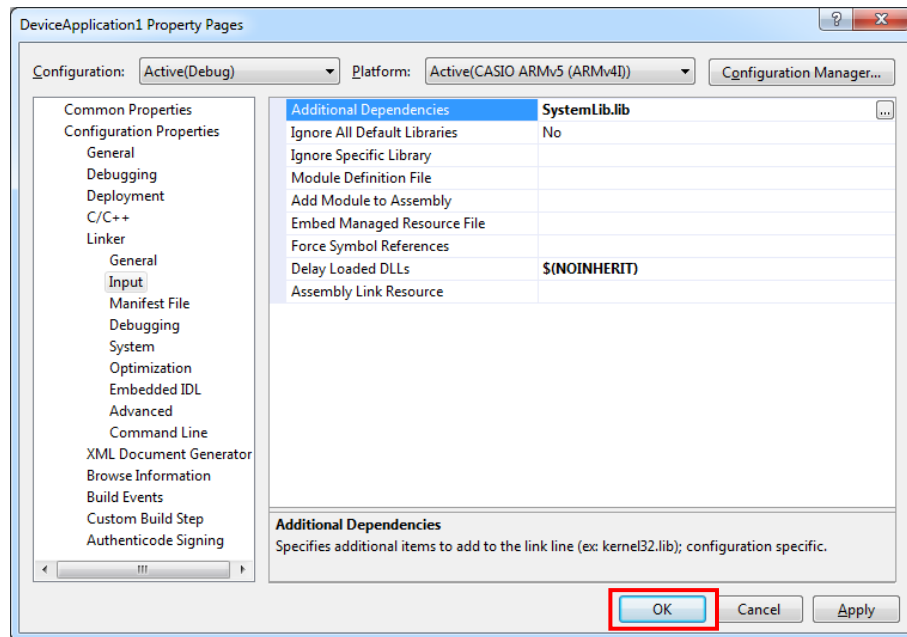

Figure 7.21
11. Navigate to **Configuration Properties -> Linker -> Input -> Additional Dependencies** and then append **SystemLib.lib** (see red circle in Figure 7.21).